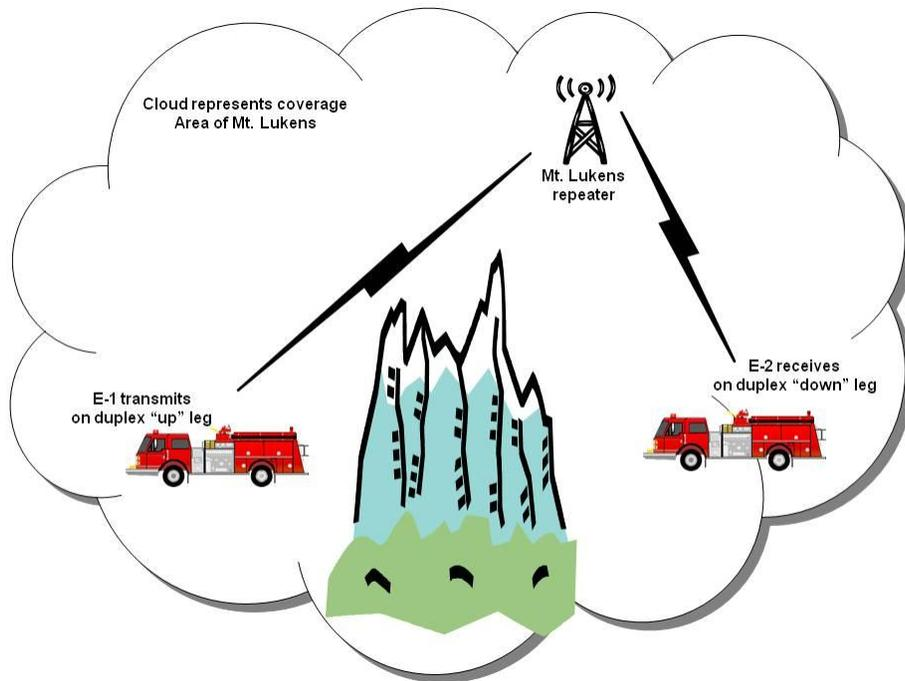

Figure 4
4. Mt. Lukens is a repeater site. Field units can only connect to it in repeat mode. When Mt. Lukens receives a voice radio message on the “up” leg, frequency; it repeats it on the “down” leg frequency. This provides the capability for field units to communicate even though they may be on different sides of a ridge line that defy normal communications. See (Figure 4).